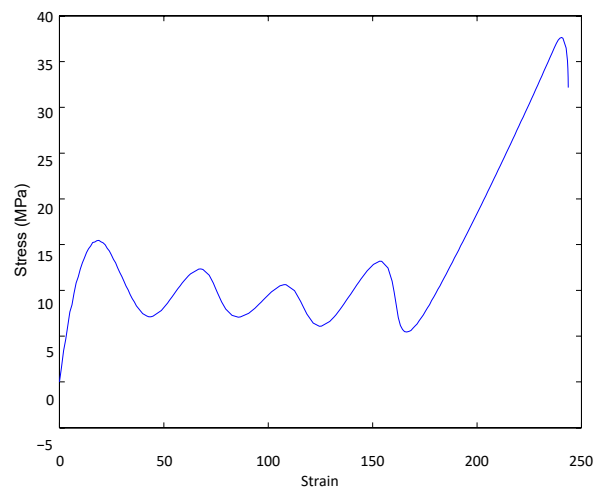

Figure 1: Stress vs strain curve
where σ is the stress, ϵ is the strain and V is the volume (you can use $V = 1m^3$). The stress vs strain curve is shown in Fig. 1.
2. Using your *trapezoidal* function, compute $I = \int_0^{\pi} \sin(x) dx$ using $n = 1, 2, 3, \dots, 1000$ segments. In figure 1, plot the true percent relative error as a function of n using logarithmic scales.
4. Using your *compositeSimp13* function, compute $I = \int_0^{\pi} \sin(x) dx$ using $n = 2, 4, \dots, 1000$ segments. In figure 1, plot the true percent relative error (for *compositeSimp13*) as a function of n using logarithmic scales (do not use a continuous line but a cross symbol).
7. Using your *Simplnt* function, compute $I = \int_0^{\pi} \sin(x) dx$ using $n = 1, 2, 3, \dots, 1000$ segments. In figure 1, plot the true percent relative error (for *Simplnt*) as a function of n using logarithmic scales.
8. Download the file *Loading.dat* in the same folder as your m file. Import the data corresponding to Fig. 1 using the function *importdata*. The 1st column of the data corresponds to the time, the 2nd column to the stress and the 3rd column to the strain. Plot the stress vs strain in Figure 2.
9. Compute the work using (1) your *trapezoidal* function (2) your *Simplnt* function.